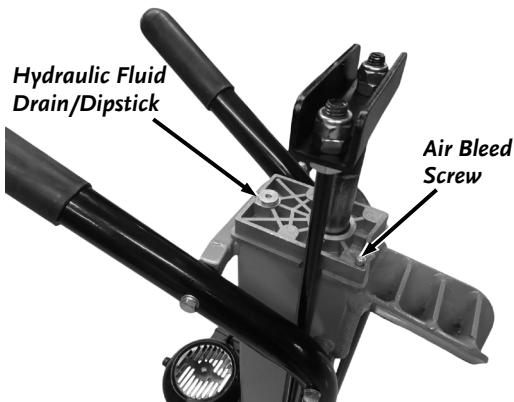

Figure 12
2. Tip the machine up vertical on the Wheels (you may need to have someone support the splitter to prevent tipping over). Clean the area around the Hydraulic Fluid Fill/Drain Port (**Figure 12**) and then, using a 3/4" Wrench, unscrew and remove the Dipstick located in the Hydraulic Fluid Fill/Drain Port.